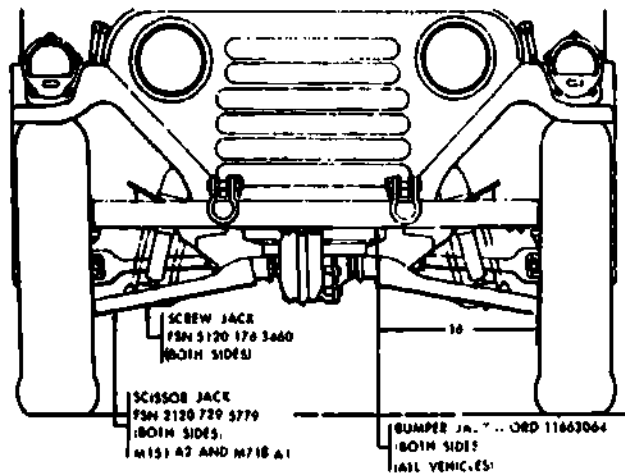
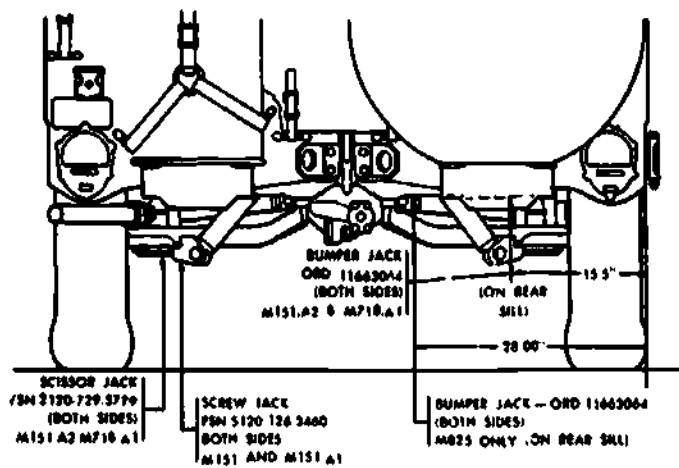

Fig 1-16. Positioning jacks at front of vehicle.
Fig 1-17. Positioning jacks at rear of vehicle.
b. **Lifting.** Positioning of the jack is very important in lifting a vehicle for tire removal. A jack not placed properly could damage your vehicle. A technical manual for the operator is supplied with each vehicle. This manual supplies the data as to the location where the vehicle may be lifted. Different vehicles have different lifting points, as well as different type jacks (such as the scissor, screw and bumper jack) that may be used on them. Figure 1-16 shows the correct positioning of these different jacks at the front of a vehicle. Figure 1-17 shows the positioning of the jacks at the rear of a vehicle.